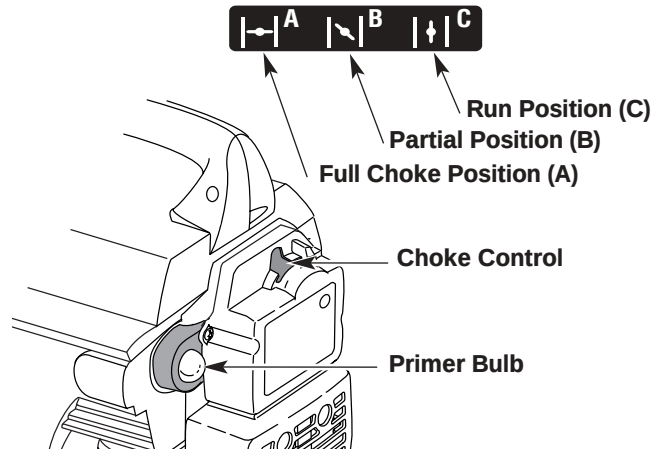

Fig. 10
3. Fully press and release primer bulb slowly 5 to 7 times. Fuel should be felt and visible in the bulb (Fig. 10). If fuel hasn't entered the bulb, press three more times, or until it does.
4. Place the Choke Control in the **FULL** choke (A |←|) position (Fig. 10).
7. Place the Choke Control in the **PARTIAL** (B |↘|) position (Fig. 10).
10. Allow the engine to warm up for 5 to 10 seconds. Place the choke control in the **RUN** (C |↑|) position (Fig. 10).
NOTE: Choking is unnecessary when starting a warm engine. Put the throttle control in the fast position () (Fig 10) and start unit with the choke control in the **PARTIAL (B | \ |)** position (Fig. 10).